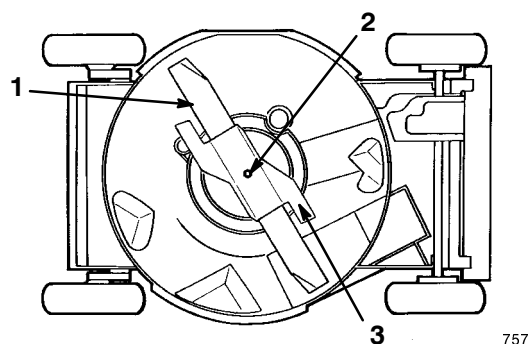

Figure 22
4. Tip the lawn mower onto its **right** side (Fig. 22).
2. Remove the blade bolt, the lockwasher, the accelerator, and the blade (Fig. 22).